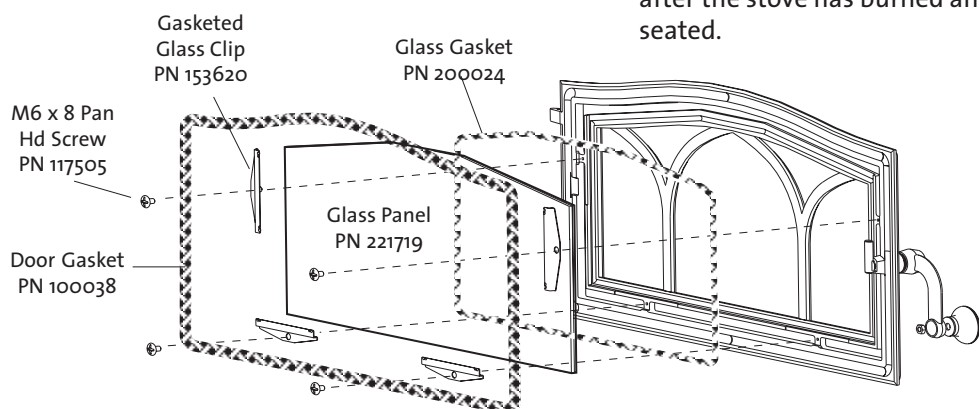

Figure 17. Replacing the door glass and gaskets.
2. First loosen and then carefully remove all of the glass clips from the inside of the door. See fig. 17.